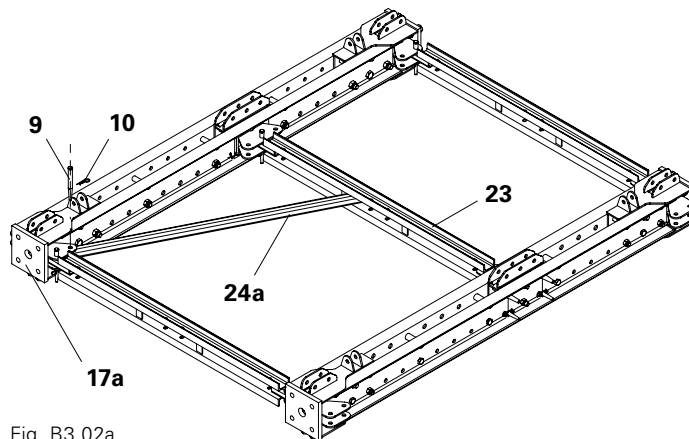
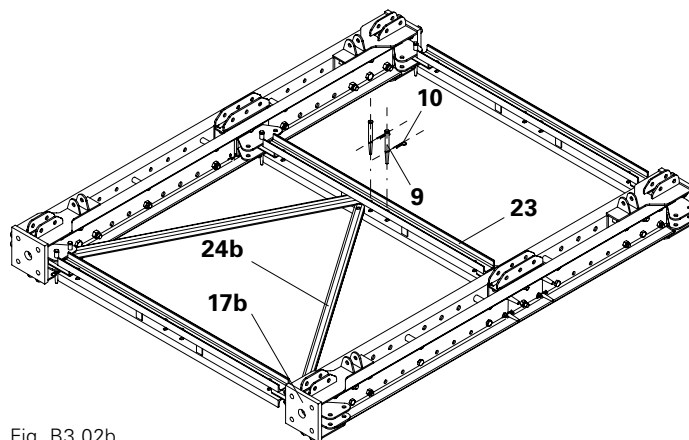

Fig. B3.02a
Fig. B3.02b
1. Connect the Diagonal Strut VST 200/150 (24a)* to the Prop Base VST 48 (17) using 1x Fitting Pin \varnothing 21 mm (9).
2. Swivel the Diagonal Strut VST 200/150 (24a)* as far as possible into the Horizontal Ledger VST 200 (23). (Fig. B3.02a)
3. Connect the second Diagonal Strut VST 200/150 (24b)* to the other Prop Base VST 48 (17) using 1x Fitting Pin \varnothing 21 mm (9).
4. Swivel second Diagonal Strut VST 200/150 (24b)* into the Horizontal Ledger VST 200 (23). (Fig. B3.02b)